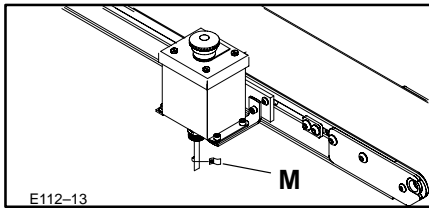

Figure 13: Cable Labeling (Detail provided only on E-Stop End of Cable)
5. Label both ends of the E-Stop Cable with the blank Labels (L) provided (Figure 13), using a permanent marking pen.